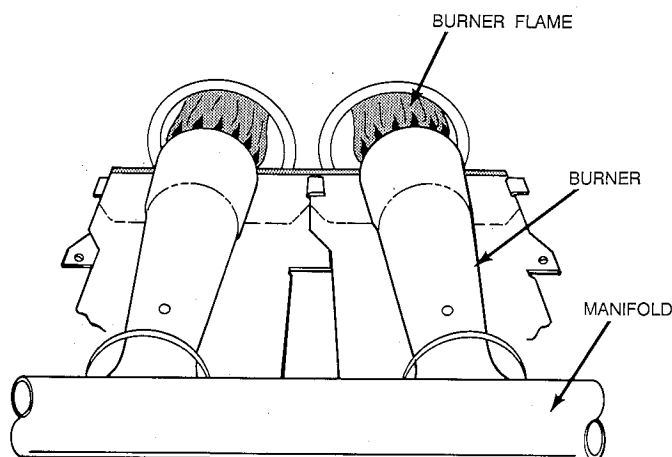

Fig. 9—Burner Flame
12. Look through sight glass in burner enclosure and check burner flame. Burner flame should be clear blue, almost transparent. (See Fig. 9.)